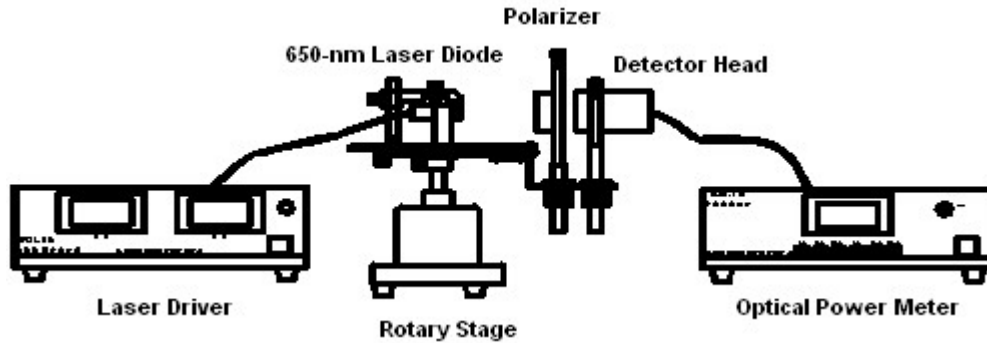

Figure 7 Degree of polarization measurement of a semiconductor laser
The experimental configuration is shown in Figure 7. Rotate the polarizer while monitoring the optical power of the laser transmitted through the polarizer. Record the maximum and minimum optical power of the laser while rotating the polarizer. Use equation (3) to calculate the degree of polarization of the laser.